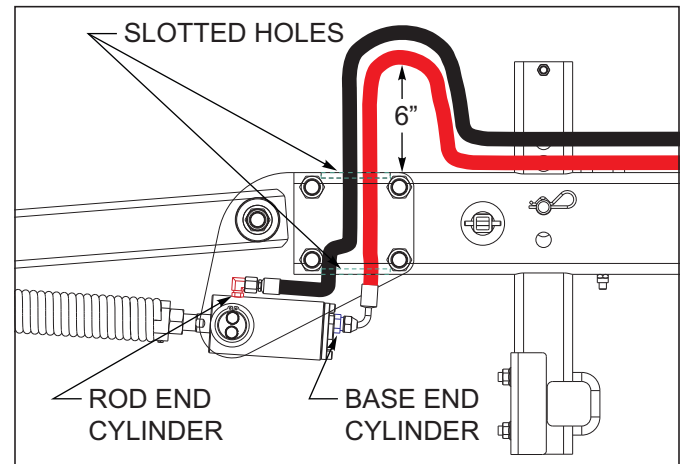

Figure 3-43: Hose to Cylinder Installation
14. Attach hoses down through the slotted holes of combo harrow mount arm to cylinders as shown **See Figures 3-43.** The reel base end of cylinder hooks to top set of holes of 8 port manifold, rod end to bottom holes of manifold.